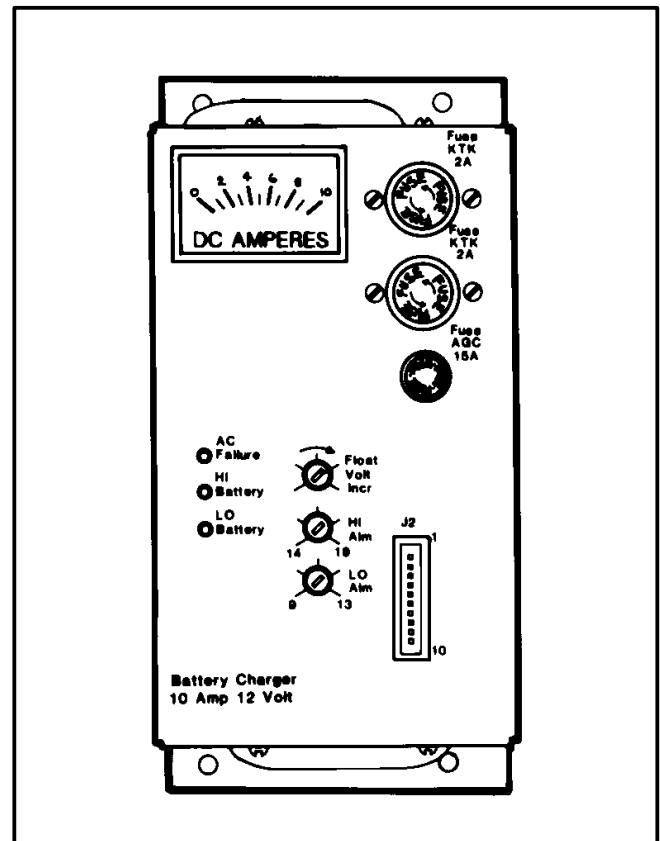

FIGURE 4. BATTERY CHARGER
3. Use a small screwdriver to turn the adjustment potentiometer on the charger panel (Figure 4) counterclockwise to decrease the float voltage and clockwise to increase the float voltage. Adjust in small steps and wait five minutes for the voltage to stabilize before making additional adjustments.
2. Use a small screwdriver to turn the HI Alm or LO Alm adjustment potentiometers on the charger panel counterclockwise to decrease the alarm voltage and clockwise to increase the alarm voltage (Figure 4).